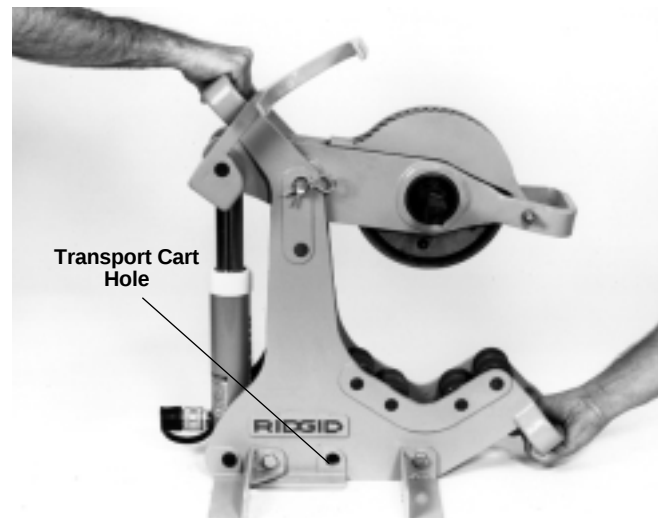

Figure 14 – Hand-holds for Transporting
1. The 258 and 258XL are designed with hand-holds located at top rear, and bottom of frame front, for transporting the cutter (*Figure 14*). Do not use pivot arm handle to transport, as it may cause damage to the hydraulic cylinder.
A two wheeled cart is available as an accessory to allow for easier transporting. This transport cart, (see catalog for ordering information), is compatible with the 258 ($2\frac{1}{2}$ " – 8") as well as the 258XL (8" – 12"). By using a "J" clamp on the top frame handle along with a hitch pin through a frame hole (*Figure 14*), the transport cart can easily be installed.